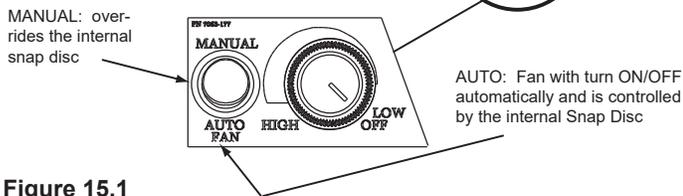

Figure 15.1
1. The blower will turn on/off automatically when set to AUTO (Figure 15.1).